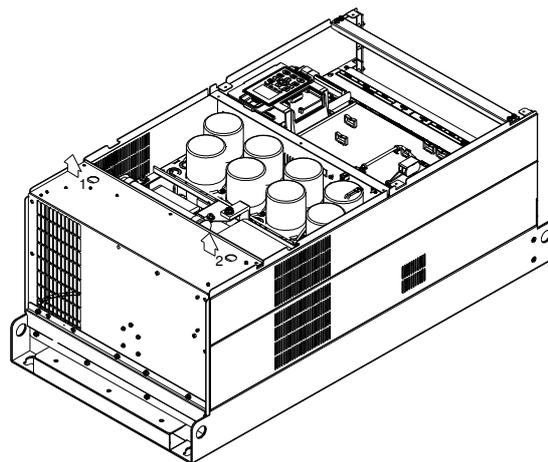

Figure 4
(4) Lift the fan by putting your finger through the protective holes, as indicates in 1 and 2 on the figure 4.